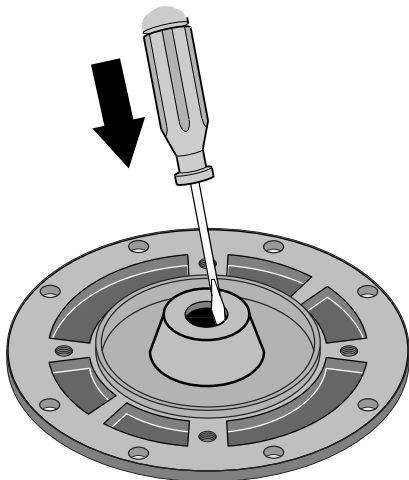

Figure 18 – Tap Out Seal
5. Place seal plate half face down on flat surface and tap out stationary half of seal (see Figure 18).